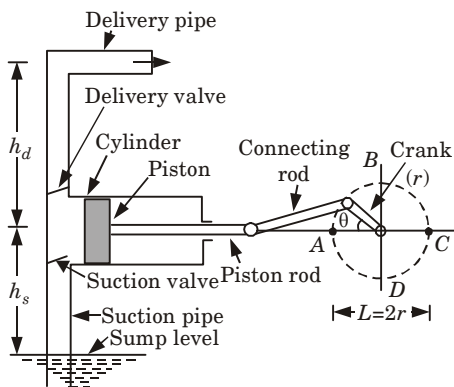

Fig. 5.21.1. Main parts of a reciprocating pump.
1. A reciprocating pump consists of a piston or a plunger inside a cylinder as shown in Fig. 5.21.1.
1. A reciprocating pump consists of a piston or a plunger executing reciprocating motion inside a cylinder as shown in Fig. 5.21.1.